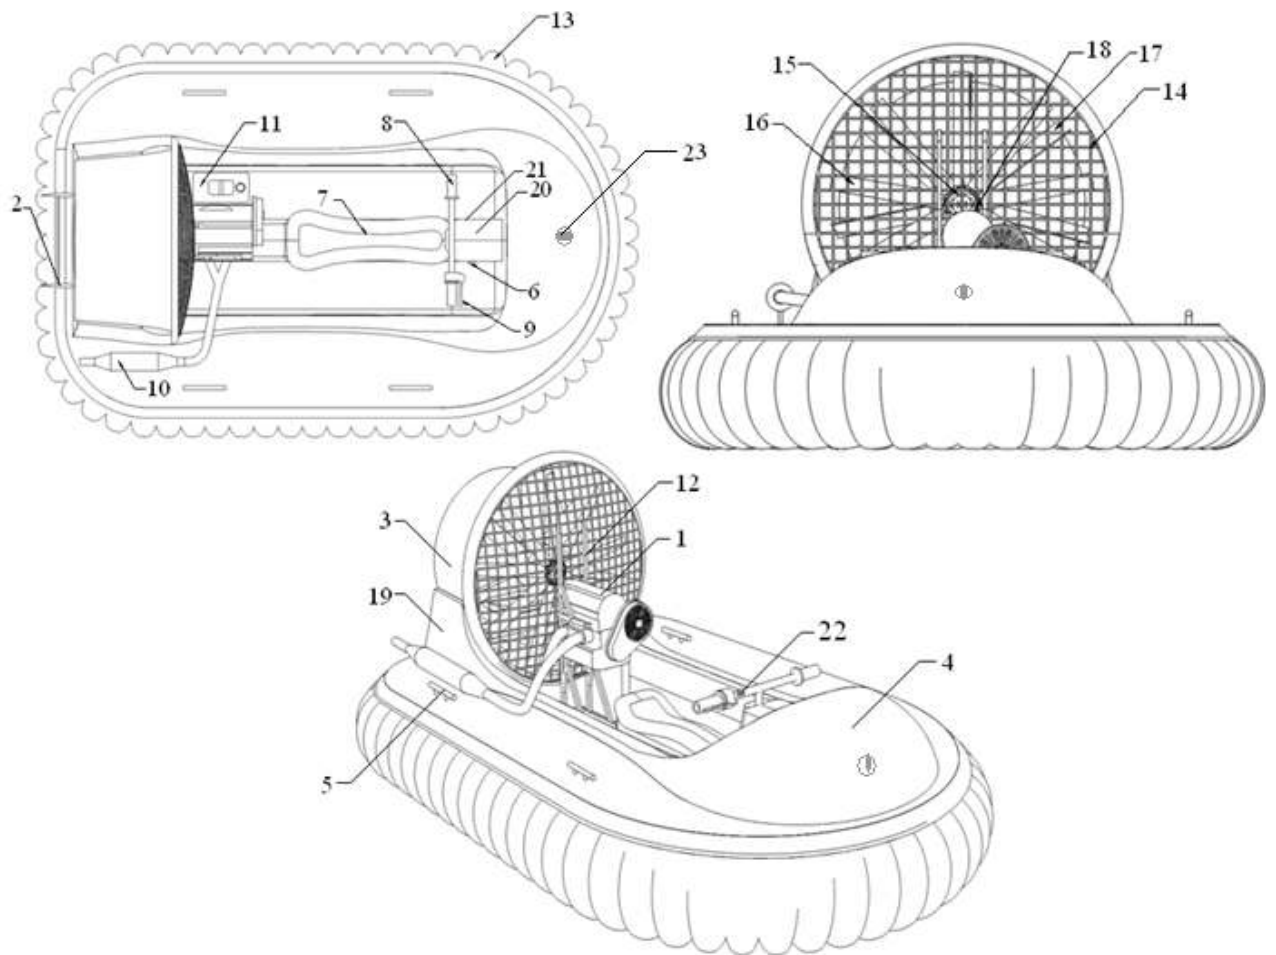

Fig.2. The types of HOVERCRAFT and the location of the constituent elements.
The main material of the hull – GRP based on polyester resin. Application of fiberglass reduces the weight of the hull and the complexity of building and operating costs, since the surface of the vessel to operate no need to paint, and it is not subject to corrosion. The housing consists of the following elements (Fig.2.):
- Steering Wheel (Fig.2., POS.8);
- Handle throttle control (Fig.2., POS.9);
- Security button (Fig.2., POS.6);
- Starter button (Fig.2., POS.21);
- Handle a richer mixture (Fig.2., POS.22)
As a mooring device on the ship used ducks, two of which are located in the bow and two aft. Their location is shown in the diagram of the General form (Fig.2, POS.5). Also required mooring ropes, which serve to secure the vessel to the jetty port, pier, or the adjacent vessel berthing facilities
The towing device provides the possibility of towing a ship in case of need. To do this, in the bow of the ship is checked eye (Figure 2, POS.23). Towing is performed using a mooring rope.